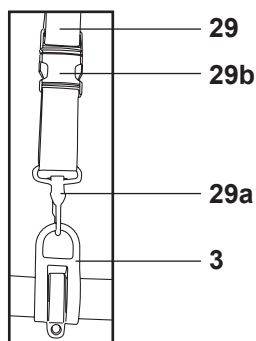

Fig. 17
1. Attach the clip (29a) of the harness (29) to the loop (3) on the pole (24) (Fig. 17).